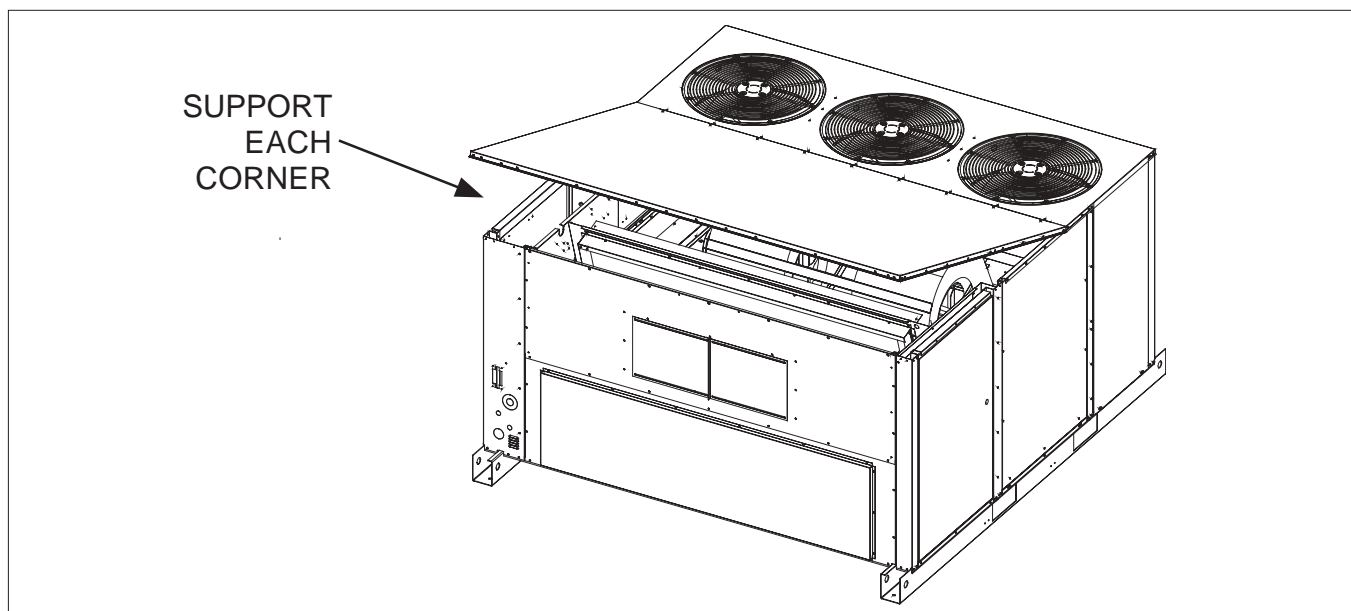

Figure 1
4. Carefully lift and support return air end of top pan approximately 16-18 inches to allow access to supply air side of evaporator coil. See Figure 1. **DO NOT REMOVE OR BEND TOP PAN.**